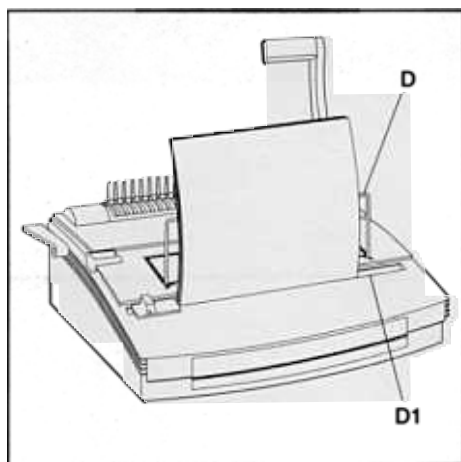

Figure 2
D. PUNCHING PAPER (see figure 2)
1. Lift the Wire Paper Support: (D) into place, optional.
4. To punch, pull the Punch Handle (A) toward you. Pull all the way down to punch completely through the paper. Punches up to 25 sheets of 20 lb./80 gram paper at once. Punch only TWO clear covers at a time to prevent jams and excessive wear.